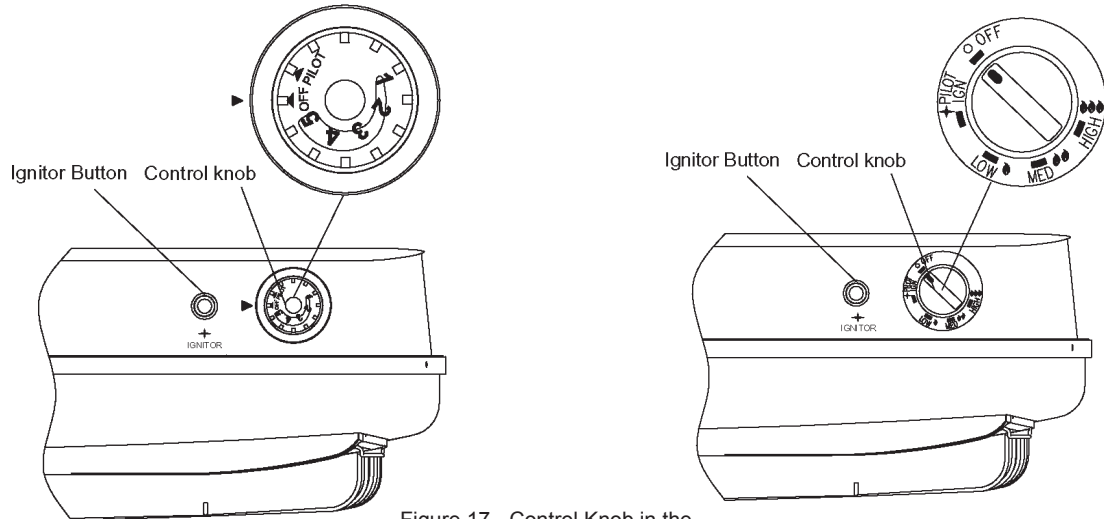

Figure 17 - Control Knob in the OFF Position
4. Wait five (5) minutes to clear out any gas. Then smell for gas, including near the floor. If you smell gas, STOP! Do not try to light any appliance. Do not touch electrical switch or use any phone in the building. Immediately contact gas supplier from a neighbor's phone. Follow gas supplier's instructions. If you can't reach the gas supplier, call the fire dept. If you don't smell gas, go to the next step.
5. Turn control knob counterclockwise ↺ to the PILOT position. Press in control knob for five (5) seconds (see Figure 17).
**Note:** The first time that the heater is operate after connecting the gas supply, the control knob should be depressed for about thirty(30) seconds. This will allow air to bleed from the gassy system. If pilot does not stay lit, refer to *Troubleshooting*, pages 17 through 19. Also contact a qualified service technician or gas supplier for repairs. Until repairs are made, light pilot with match. To light pilot with match, see *Manual Lighting Procedure*.
**Note:** If pilot goes out, repeat steps 3 through 7. This heater has a safety interlock system. Wait one (1) minute before lighting pilot again.